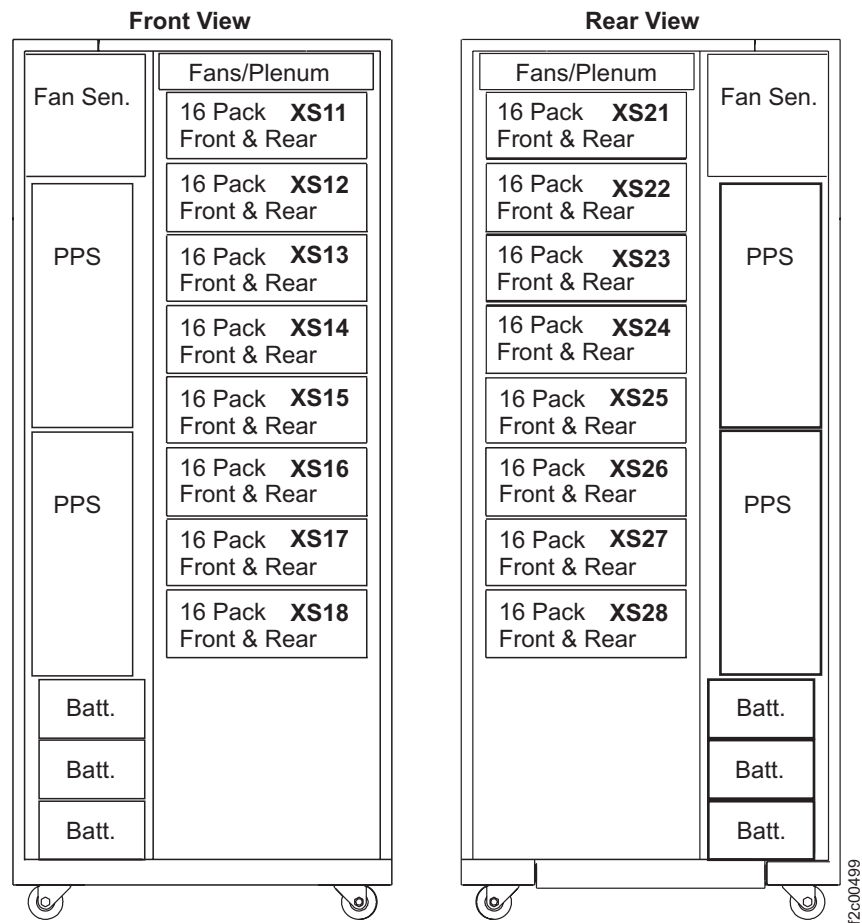
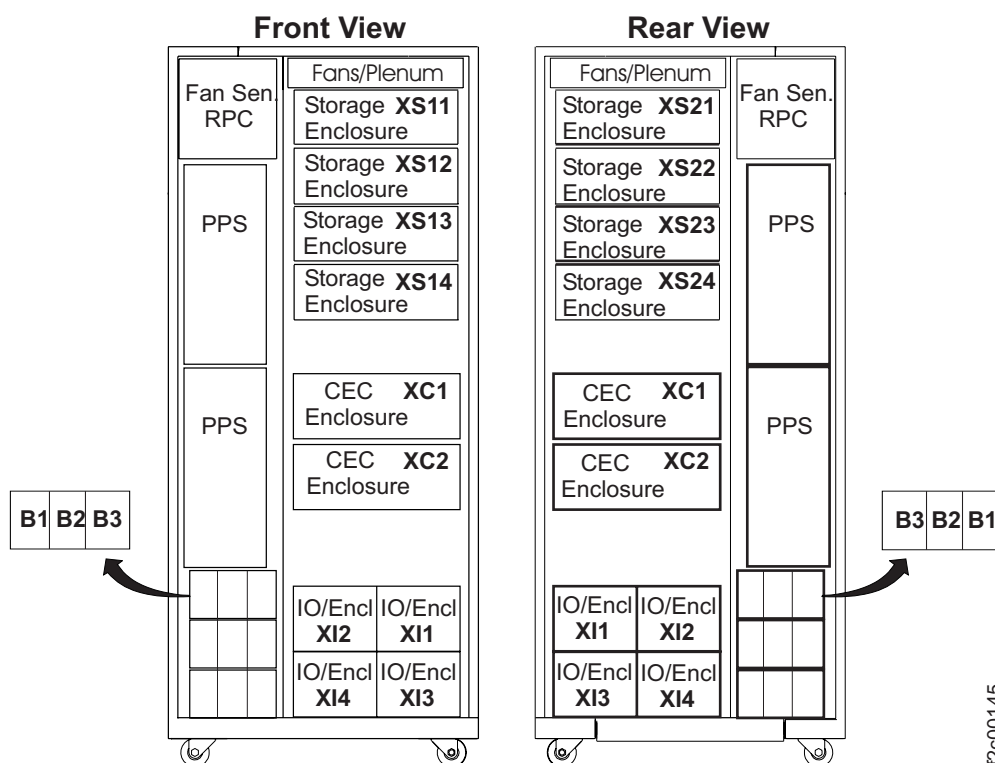
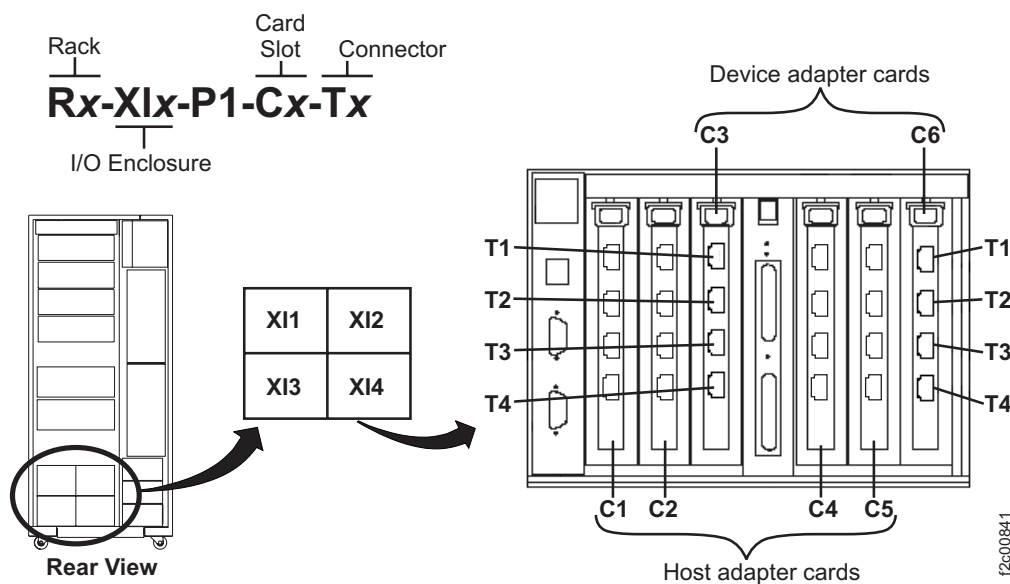

Figure 87. Storage expansion rack without I/O enclosures
Figure 88. Physical location codes (Rack-1)
Figure 89. I/O enclosure locations (rear)
- a. An example of a storage enclosure pair are storage enclosures XS11 and XS21 in Figure 87 on page 103.
3. Determine if Rack-1 has 8 device adapter cards installed. Device adapter cards will be in slot 3 or 6 of the four I/O enclosures at the bottom of rack 1. Refer to Figure 88 on page 104 and Figure 89 on page 104. Are there 8 device adapter cards installed?
If the new expansion rack has a storage enclosure present in this physical location, (reference Figure 87 on page 103)	Rack-1 must have a device adapter card in this I/O enclosure and slot (reference Figure 88 on page 104 and Figure 89 on page 104)
- The storage enclosure physical location code displayed by the HMC is of the format "Rx-Sxx". The storage enclosure physical location codes in Figure 87 on page 103 are of the format "XSxx". They both refer to the same location.
- Using the displayed physical location code, refer to Figure 87 on page 103 to determine the location of the storage enclosure in the rack.
- c. Refer to Figure 87 on page 103, Figure 88 on page 104 and Figure 89 on page 104 to find the location of the enclosure for the other end of the cables.